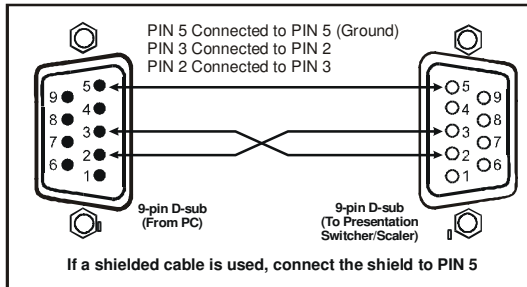

Figure 4: Connecting the PC
- Connect the RS-232 9-pin D-sub port on your PC to the RS-232 9-pin D-sub rear panel port on the **VP-728** unit, forming a cross-connection1, as Figure 4 illustrates